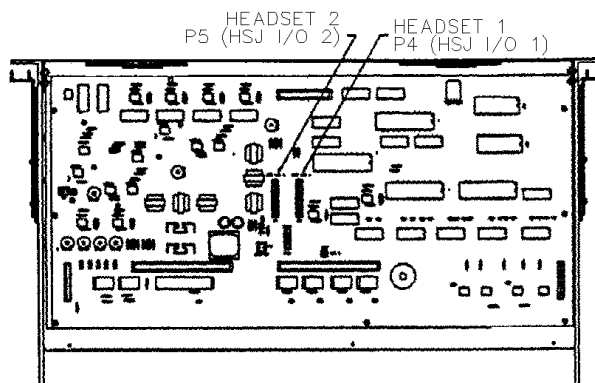

Figure 5-6 CIP BOARD
3. Plug the connector end(s) of the headset jack(s) into the CIP board. Connect the first headset to P4(HSJ I/O 1) and the second headset to P5(HSJ I/O 2). Refer to Figure 5-6.